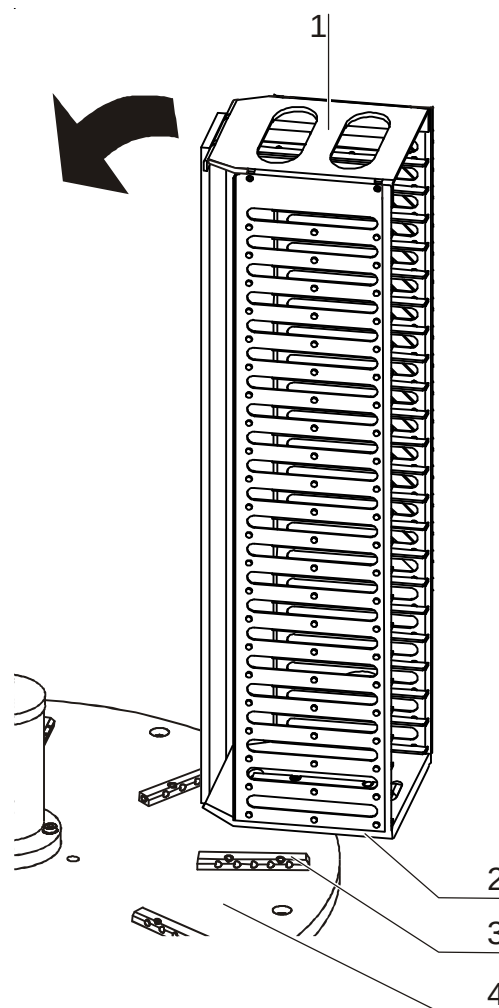

Fig. 17
1. **Fig. 17:** Grasp the stacker at the handle plate [1].